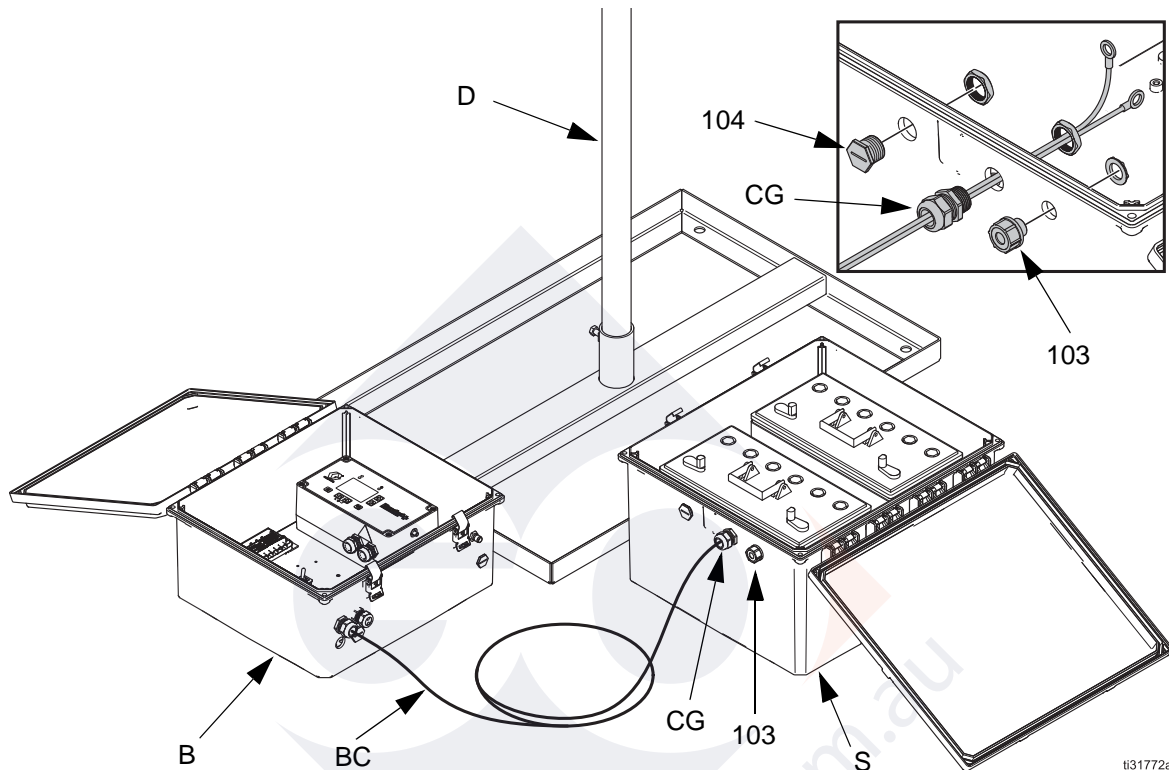

FIG. 12: NEMA 4X battery and control boxes
1. Set the NEMA 4X battery box (S) on the ground near the base of the stand unit (D) used for mounting the solar panel. The box should be oriented so the lid opens up. See FIG. 12.
2. Remove the nut from the cord grip (CG) on the battery cable (BC). Feed the included battery cable (BC) from outside the battery box (S) through one of the holes in the battery box (S). Slide the cord grip (CG) nut over the ring terminals on the battery cable (BC) and on to the cord grip (CG). Tighten the cord grip (CG) nut.
3. Install the red terminal cover over the ring terminal on the red wire of the battery cable (BC), and the black terminal cover over the ring terminal on the black wire of the battery cable (BC).
4. Install the included breather (103) into the hole on the battery box (S).
5. If using one or two batteries, install the included plug (104) in the remaining open hole.